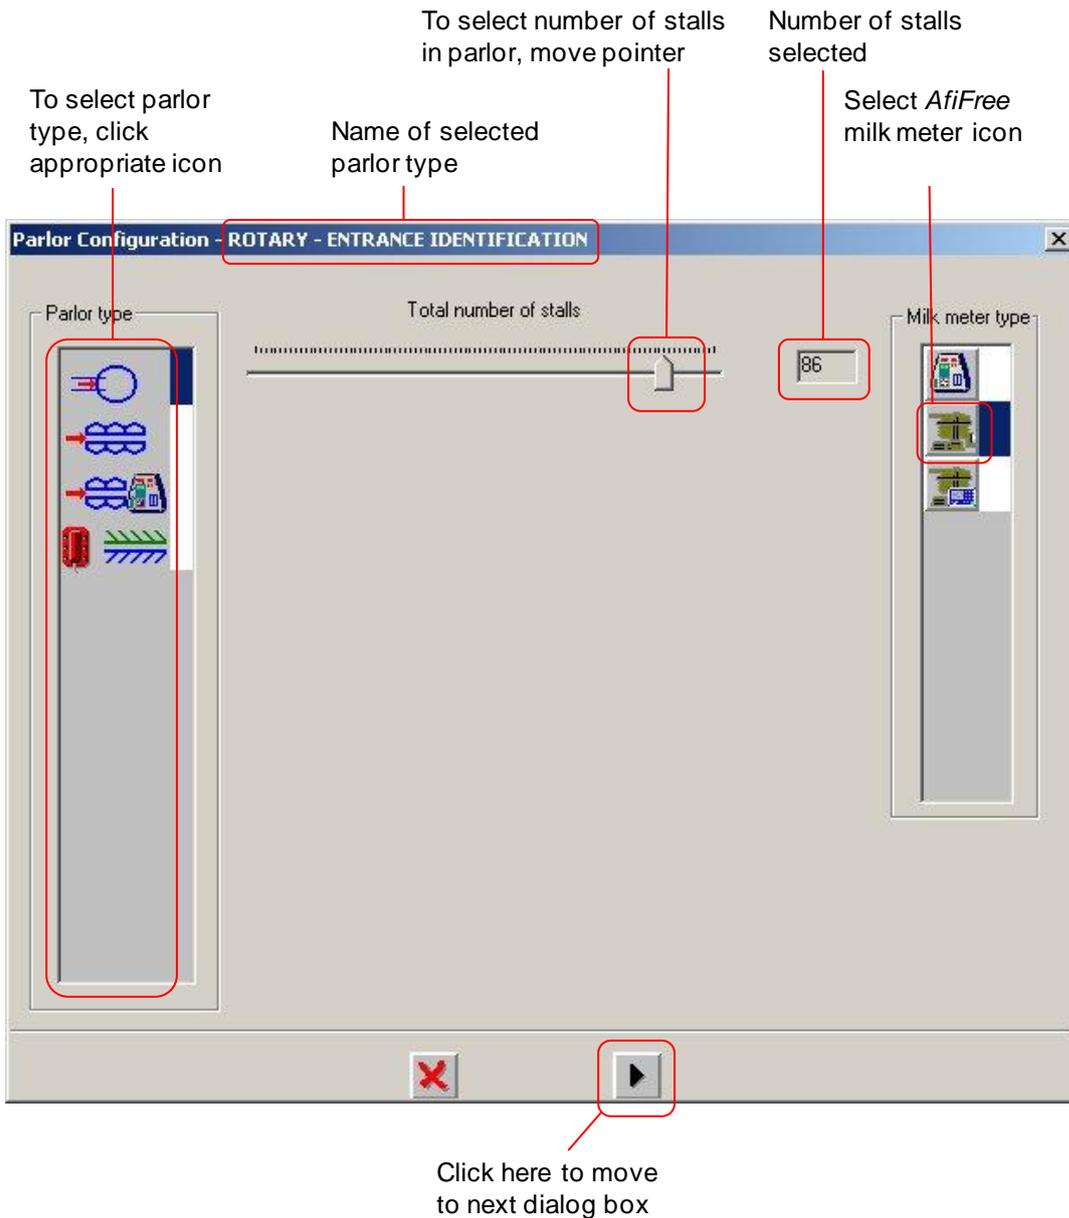

Figure 32: Parlor Configuration Dialog Box
| Parlor Configuration (Figure 32) | Go to step 5. |
5. In the Parlor Configuration dialog box (Figure 32), select:
- the parlor type (Table 15 and Figure 32)
- the number of stalls in the parlor (Figure 32)